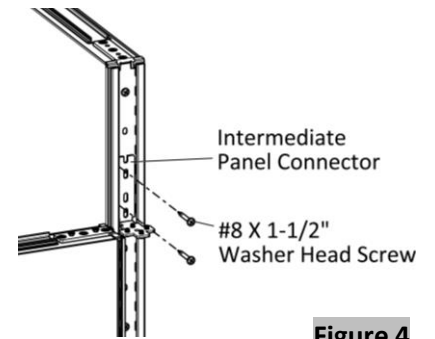

Figure 4
6. Drive two #8 X 1-1/2" Washer Head Screws through the holes in the intermediate panel connector into the taller panel, (Figure 4).